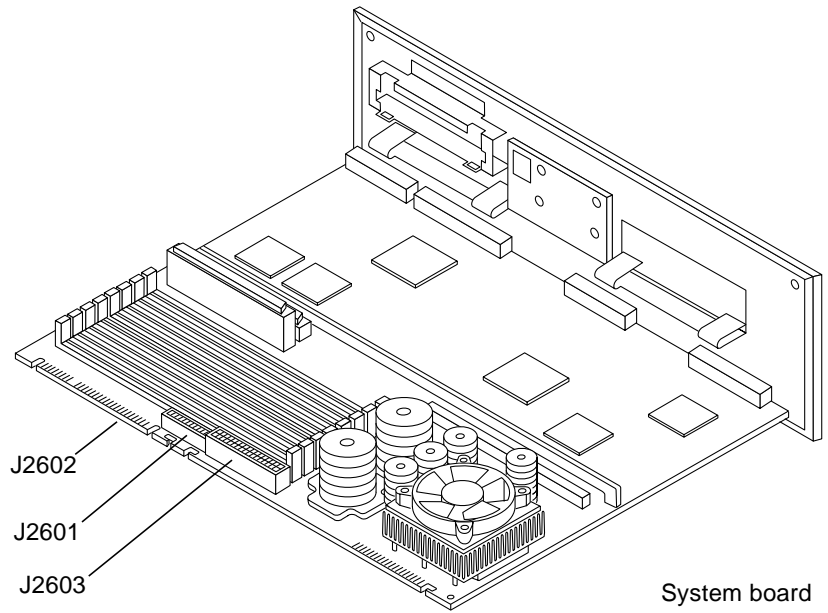

Figure 3-6 Reconnecting Connectors to the System Board
- 7. Connect the DC power cables to the system board connectors at J2601 and J2603 (Figure 3-6).**
- 8. Connect the SCSI cable to the system board edge connector at J2602 (Figure 3-6).**